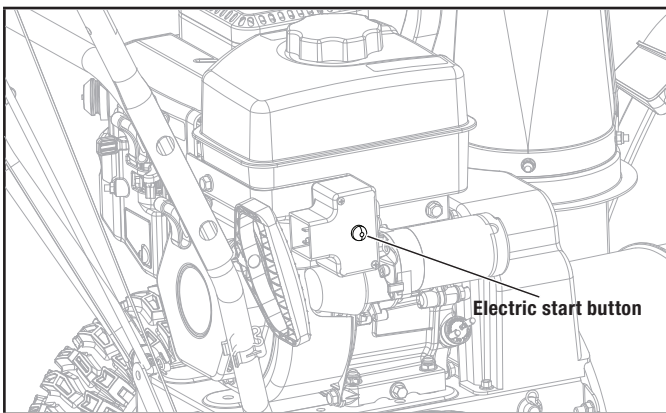

Figure 13D
- Alternatively for electric start, plug in the supplied electrical cord into the starter. Press the electric start button and make sure that the mains supply voltage is 120 V~ 60 Hz (Fig. 13D).